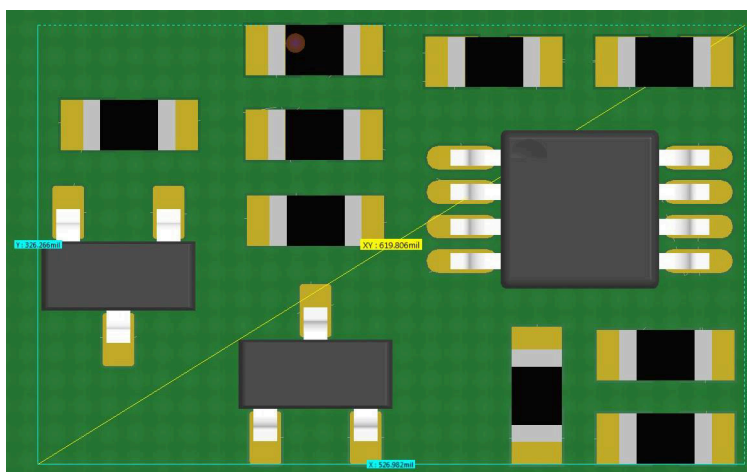

Figure 2-4. Two TL431LI + Dual Comparator Example Layout
- **Two TL431LI + Two Comparators:** This solution uses four lower cost components to create an undervoltage and overvoltage monitoring solution. The solution requires at least four external resistors to set the fault threshold of the two TL431LI devices in addition to two pull-up resistors for each. An additional two external resistors for each comparator is required if level shifting is needed. Although this solution can be lower cost, often times the size of the devices plus the external components make it a large footprint solution as shown in Figure 2-4. The monitoring accuracy depends on the grade of TL431LI in addition to the grade of the resistors used. This solution provides typical monitoring accuracy between 3% to 6% and does not provide accurate hysteresis.